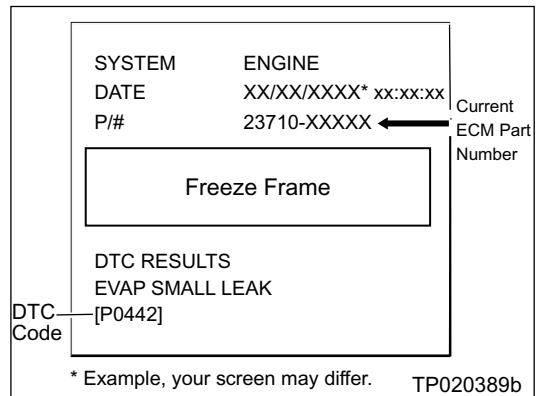

Figure 3
- Figure 3 is an example of the F.F. Data printout.